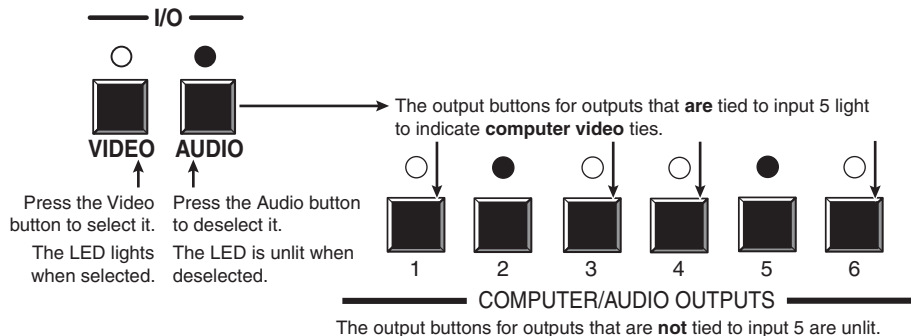

Figure 3-31 — Deselect audio and select video to view video only
6. Press and release the Video button and the Audio button to toggle the Video LED on and the Audio LED unlit (figure 3-31).